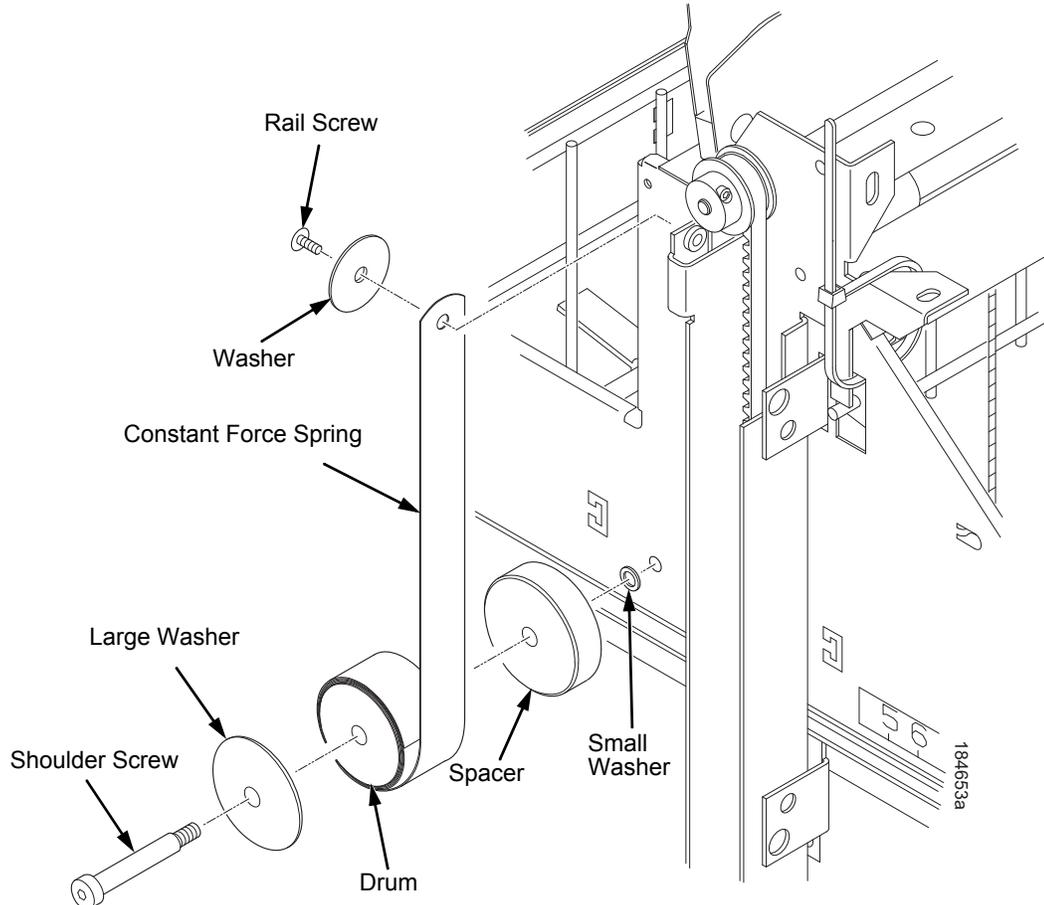

Figure 27. Removing and Installing the Constant Force Spring
3. Remove the shoulder screw, large washer, spacer, and small washer from the constant force spring and drum. Let the spring coil itself up until it reaches the top of its travel on the vertical rail. (Figure 27.)
4. Firmly gripping the spring and drum, remove the rail screw and washer securing the spring to the vertical rail. (Figure 27.)
5. Position a new constant force spring on the vertical rail and install the rail screw and washer. (Figure 27.)
6. Install the shoulder screw, large washer, spacer, and small washer as shown in Figure 27.